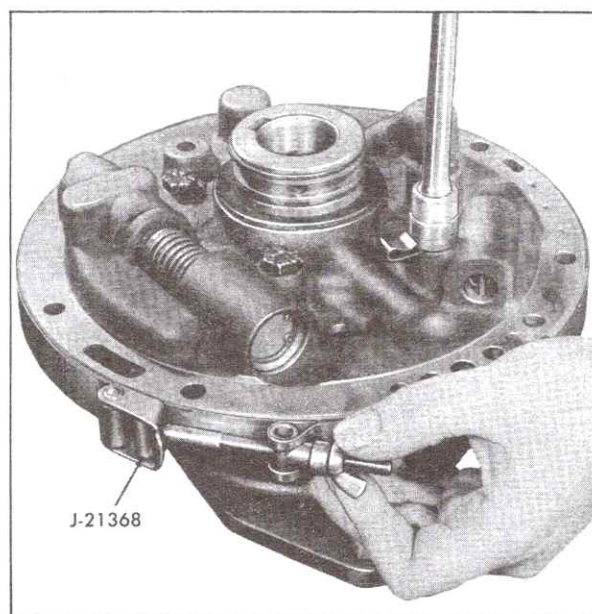

Fig. 7-62 Aligning Pump Cover with Pump Body
15. Install pump Body and Cover Alignment Band, J-21368, around pump assembly. Tighten wing nut on alignment band to align pump cover with pump body, Fig. 7-62.